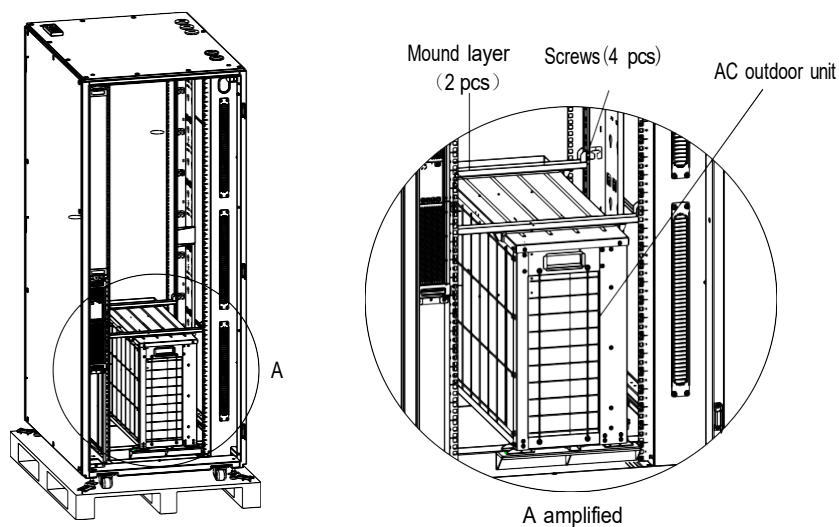

Figure 2-14 Removing the press strips of outdoor unit
- 1) Remove the 4 screws on the press strips(mound layer) of the outdoor unit followed by removing the press strips as shown in Figure 2-14.